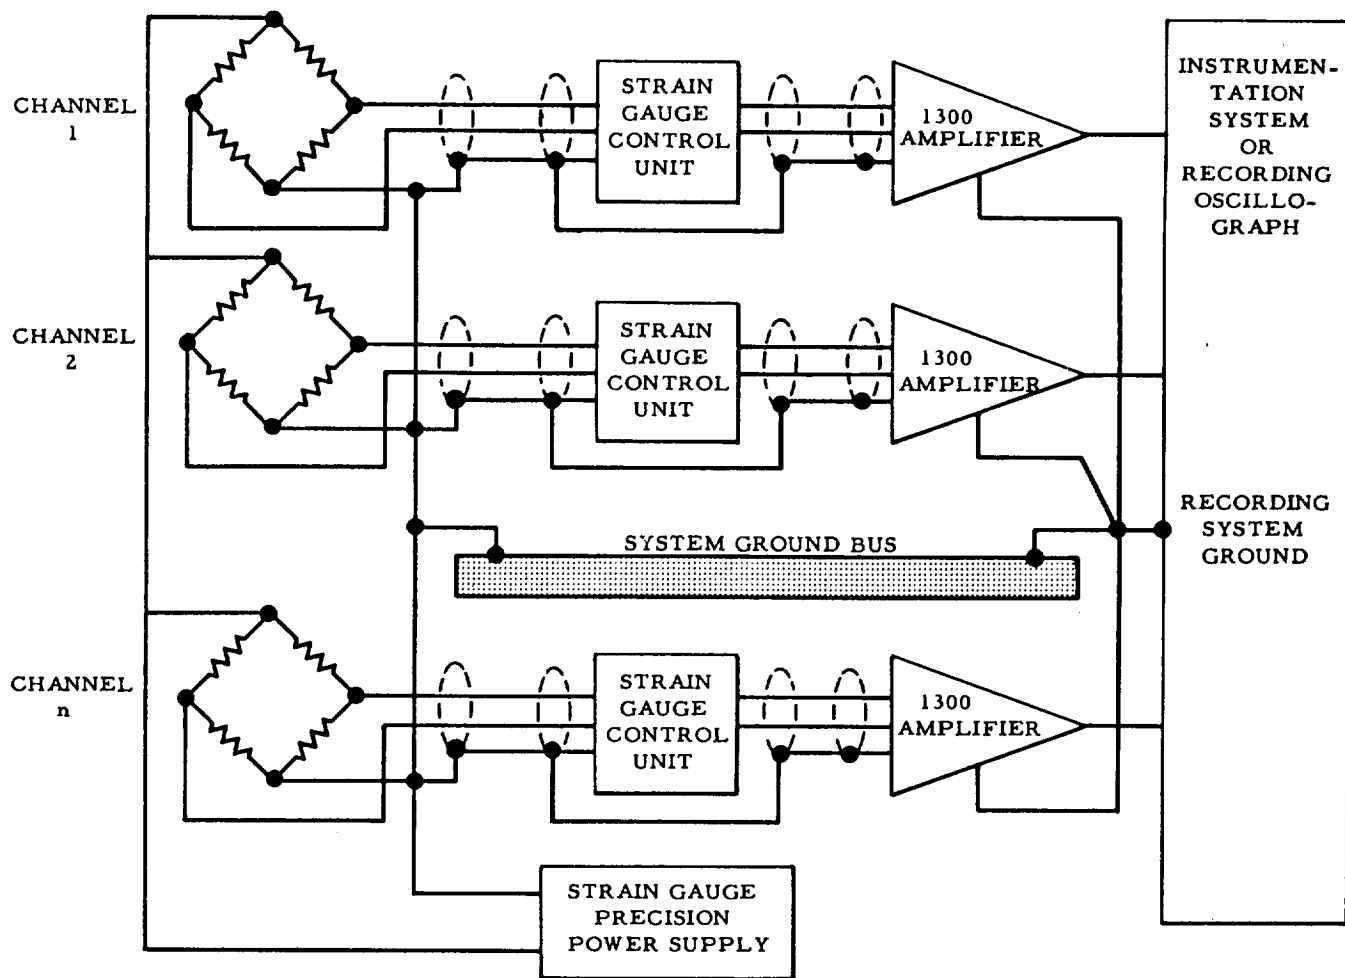

Figure 6. Application for Cubic Model 1300 Differential DC Amplifiers
2.7 Application. The model 1300 amplifier was designed primarily for use as a preamplifier with low-impedance sensors such as thermocouples, strain gauges, potentiometric pickups, etc. It has sufficient gain (10 to 2500) to match almost any transducer to any data acquisition system. Figure 6 shows a typical instrumentation system application of the model 1300 amplifier. Since each amplifier contains its own regulated and isolated power supply, the output from each amplifier can be grounded at the optimum system location.
2.7.2 Since the model 1300 amplifier contains a differential input, a system such as that shown in figure 6 does not require an individual precision power supply for each strain gauge channel, thus resulting in an appreciable cost saving for the user. The system ground bus should be such that the voltage drop across its length does not exceed a few (2 to 5) volts. This low voltage drop is required by the  $\pm 10V$  common-mode limitation on the amplifier. It should be noted that one-half the bridge excitation appears as a common-mode input to the amplifier.